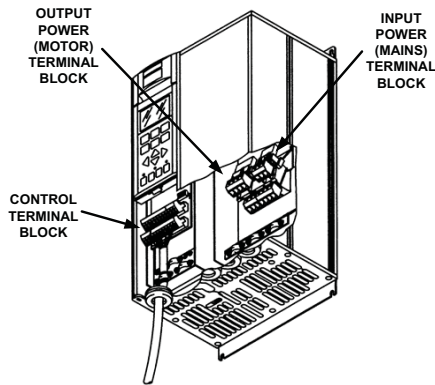
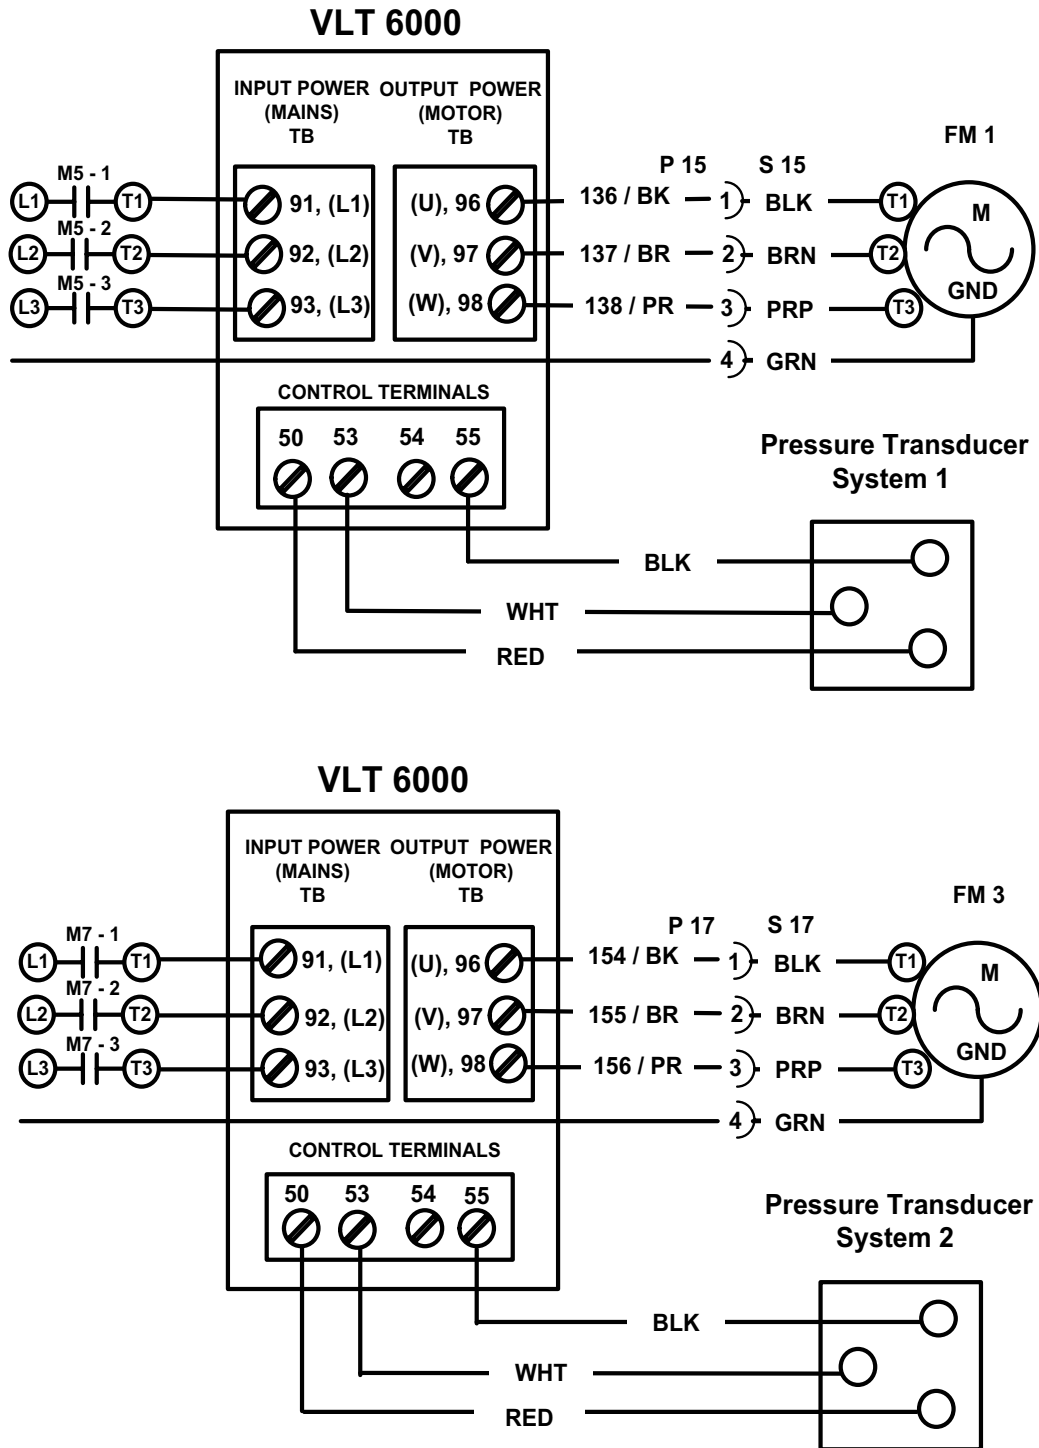

FIGURE 6 - P399 PRESSURE TRANSDUCER WIRING
FIGURE 9 - SIMPLIFIED WIRING DIAGRAM
8. Access the VLT6000 control terminal blocks. See Figure 6.
10. Wire transducers to the VLT6000 control. See Figure 6.
- Route power wires, motor leads, and transducer signal wires through separate knockouts. See Figure 6.
- Connect White Wire from Transducer to Terminal (53) on the VLT6000.
- Connect Black Wire from Transducer to Terminal (55).
- Connect Red Wire from Transducer to Terminal (50).
12. Wire condenser fan motor #1 to the VLT6000 control. See Figure 6, and the SWD in Figure 9. The VLT6000 must be wired to operate fan motor #1. Factory installed pressure switches control fan motor #2.